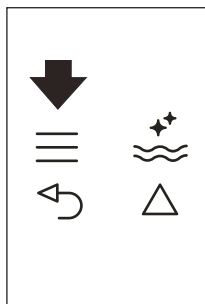

Fig. 22
- ▶ Press the  icon (B2) to enter the menu (Fig. 22). Press the icons   (B7) and (B8) (Fig. 9) until "PROGRAM COFFEE" is displayed.